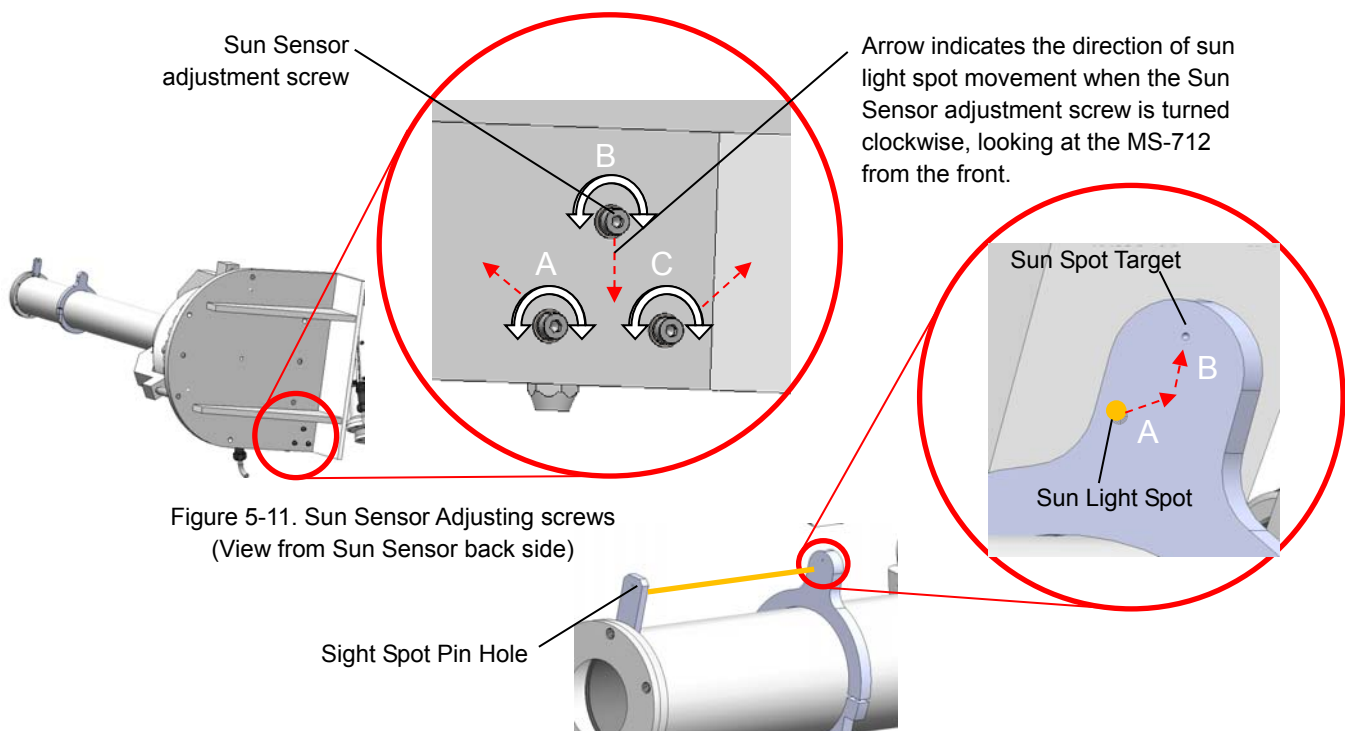

Figure 5-11. Sun Sensor Adjusting screws
After the mounting plates, spectroradiometers and the collimation tubes are setup on the STR-32G according to [A-3. Mounting DNI Spectroradiometers on Sun Tracker], the Sun Sensor is adjusted by adjusting the 3 screws behind the Sun Sensor with reference of the sight spot which is attached on the collimation tube. On a sunny day, sun light is irradiated through the sight spot on the target. Adjust the Sun Sensor so that the sun light irradiates on the center of this sight spot target (Figure 5-11 & Figure 5-12). Make sure the Sun Sensor screws in three positions do not get loosen after the sight spot is aligned.
(Example) When the sight spot is not irradiating the target properly as shown on Figure 5-11, adjust the Sun Sensor screws (on behind the Sun Sensor) (A) and (B) in clockwise direction.